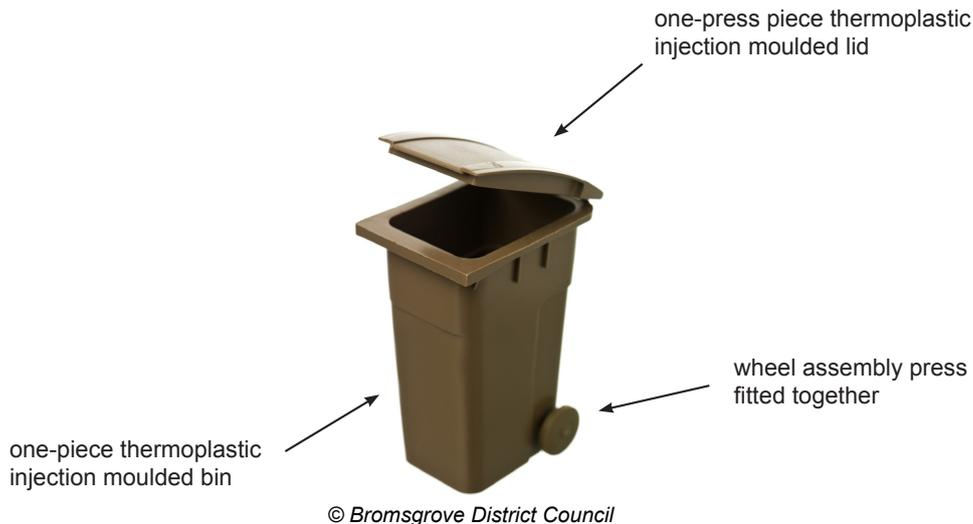

Fig. 6(a)
6 Fig. 6(a) below shows a photograph of a wheelie bin used for domestic waste.
- (a) For any **two** of the 6R's explain how the company could claim that through the design and manufacture of the wheelie bin shown in **Fig. 6(a)** environmental issues are being addressed. [4]